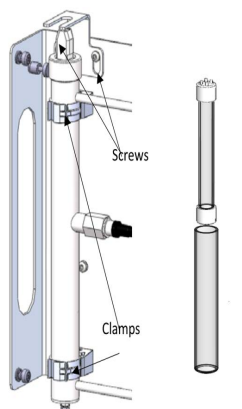

Figure 84. Removing the Glass Tube from the Metal Casing
- i. Carefully, pull the glass tube (that holds UV bulb inside it) from the metal casing of the reactor while turning it slightly in the clockwise direction (see **Figure 84**). Entire tube does not need to be removed from the metal housing.